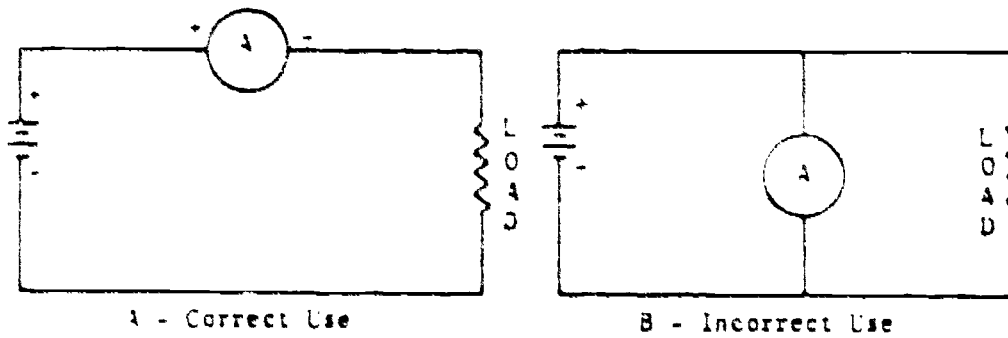

Figure 9
6. Part B of Figure 9 shows the **WRONG** way of using the ammeter. Notice that, with this circuit, the ammeter is directly across the battery terminals. The meter is not designed to withstand even moderately high voltages. Consequently, connecting an ammeter across the line will usually burn out the meter movement.